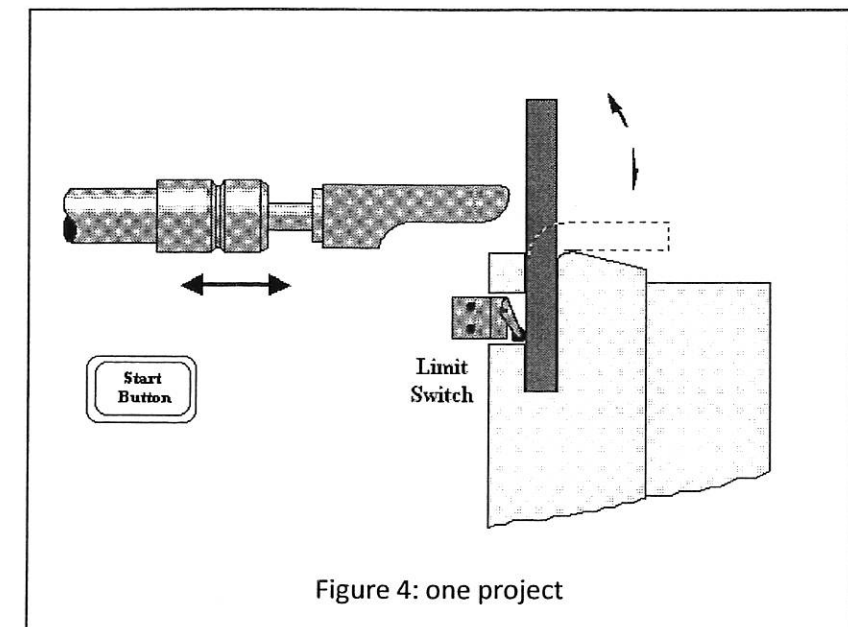

Figure 4: one project
- (c) A semi-automatic bending process of a sheet metal is shown in **FIGURE 4** below. This process uses a single acting cylinder in normal retract position. One push button switch and one limit switch are used as inputs.